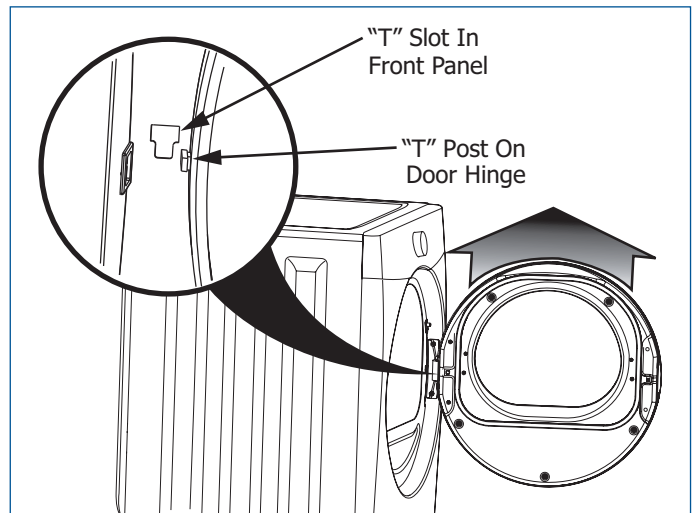

Figure 4-2.
3. Supporting door with both hands, squarely lift door and hinge upward approximately 3/8" (10 mm) so "T" post on back of hinge can slide out through "T" slot on front panel. (See Figure 4-2)